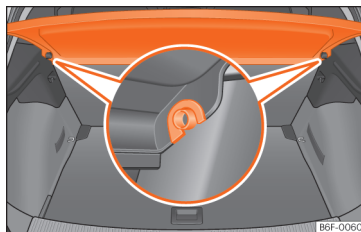

Fig. 110 In the luggage compartment: removing and fitting the shelf.
- Remove the rear shelf from the side supports »»» **Fig. 110** by pulling it upwards and then take it out.
- Insert the cover horizontally so that the "recess" fits onto the axis of the supports »»» **Fig. 110** and press down until it engages.